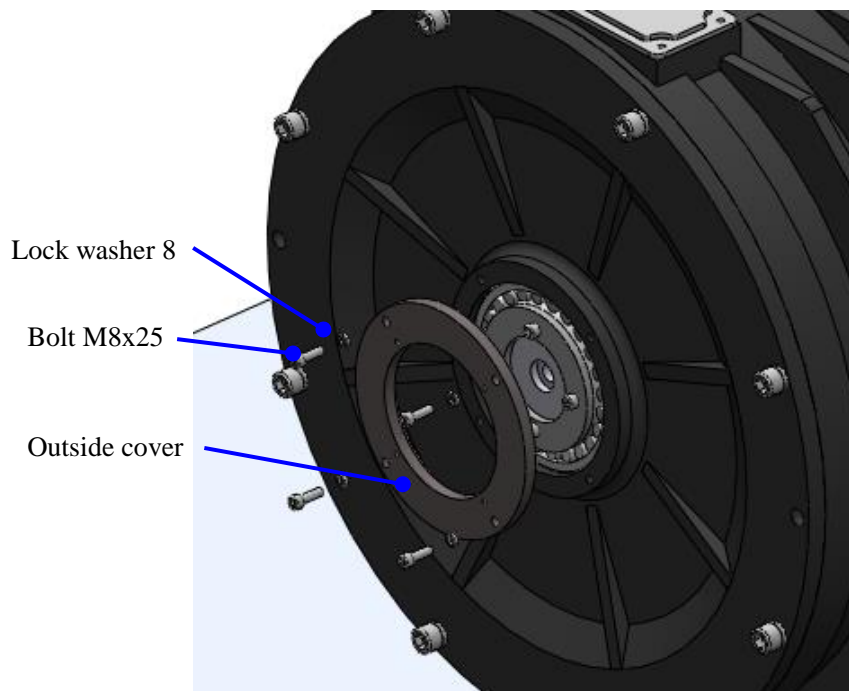

Figure 112: Remove Outside cover
4. Remove the bolt M8x25 (4 pieces) and lock washer 8 (4 pieces) with the end wrench, then remove the outside cover. See Figure 112.